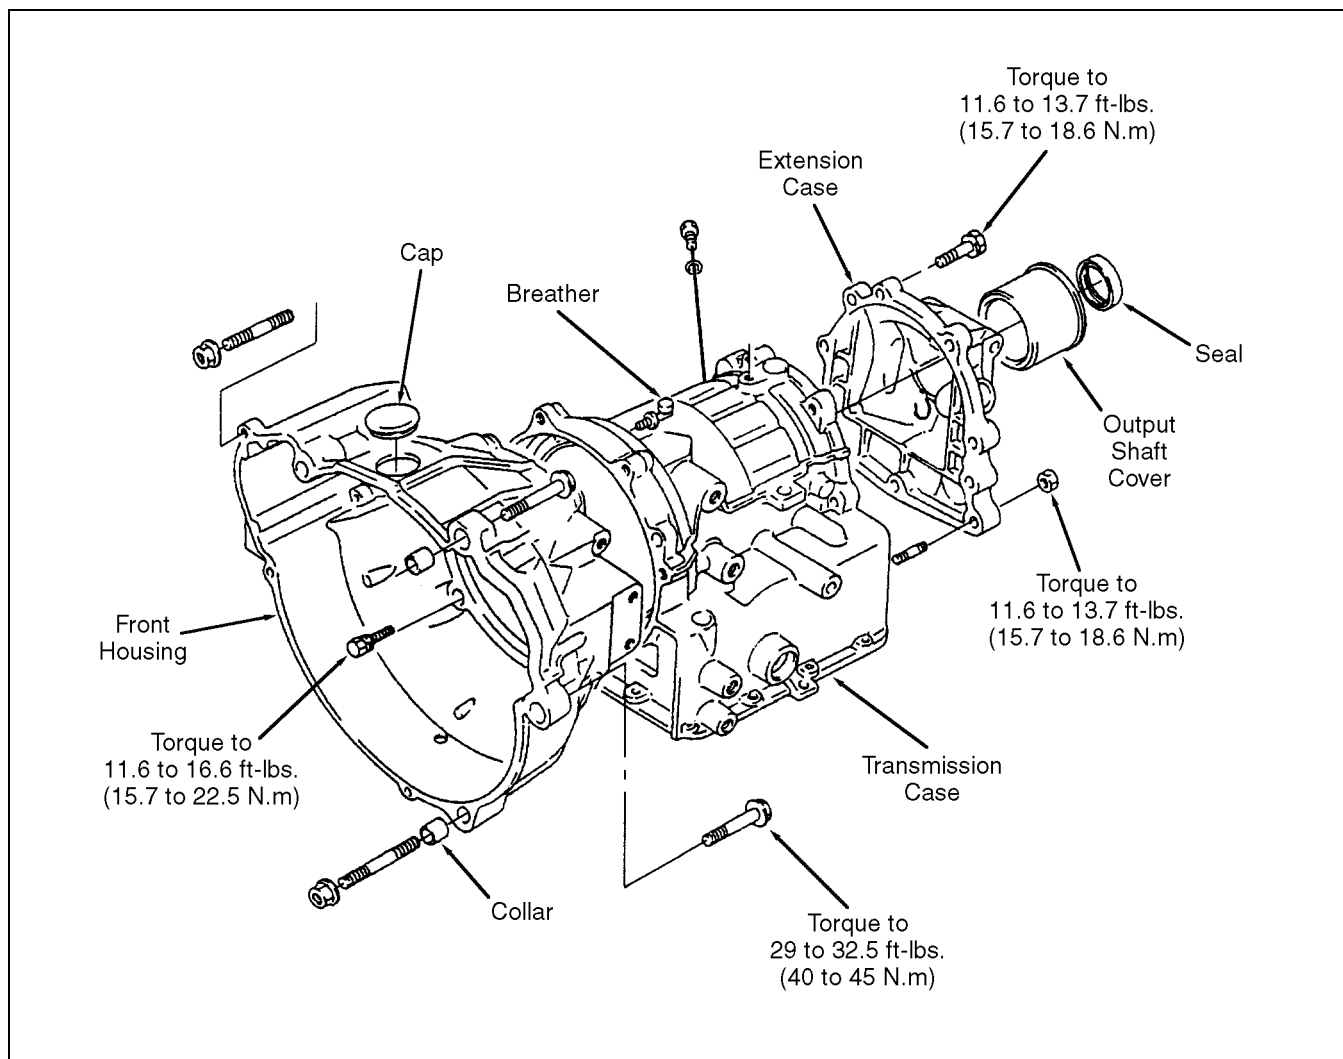

Figure 4J-5. Front Housing and Rear Extension Removal and Installation
3. Reassemble the front housing and rear extension as shown in Figure 4J-5.
**SPEED SENSOR EXCITER, PARKING LOCK GEAR AND OUTPUT SHAFT (See Figure 4J-6)**